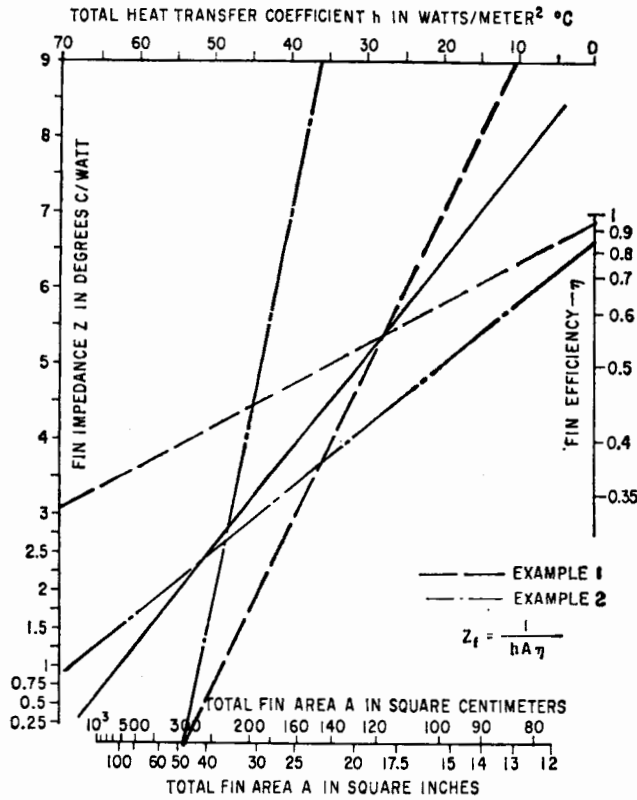

FIG. 6—Nomogram for obtaining total fin area
$A = 334$  cm2 = 51.7 in.2 (Fig. 6)
**FIN DIMENSIONS**—When the desired fin efficiency is chosen, required fin area can be found with Fig. 6. Reasonable values of  $\eta$ , when fins are copper or aluminum, are 0.95 for free convection and 0.75 to 0.85 forced convection. Higher values of  $\eta$  make the fins too thick and uneconomical.
$Z_f = 1.0$  C/w (Fig. 6)